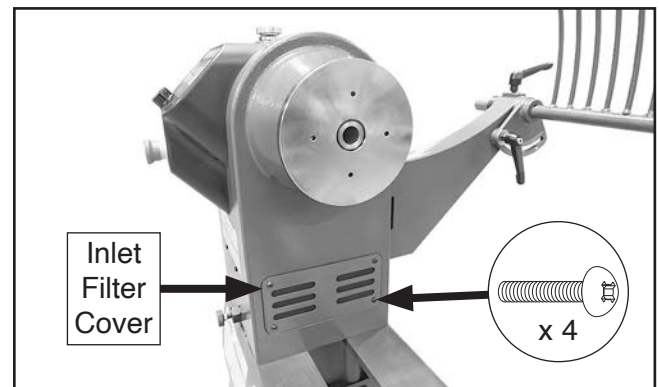

Figure 106. Location of headstock inlet filter cover.
3. Remove inlet filter cover and place generous quantities of desiccant bags inside headstock, then install inlet filter cover, as shown in **Figure 106**.